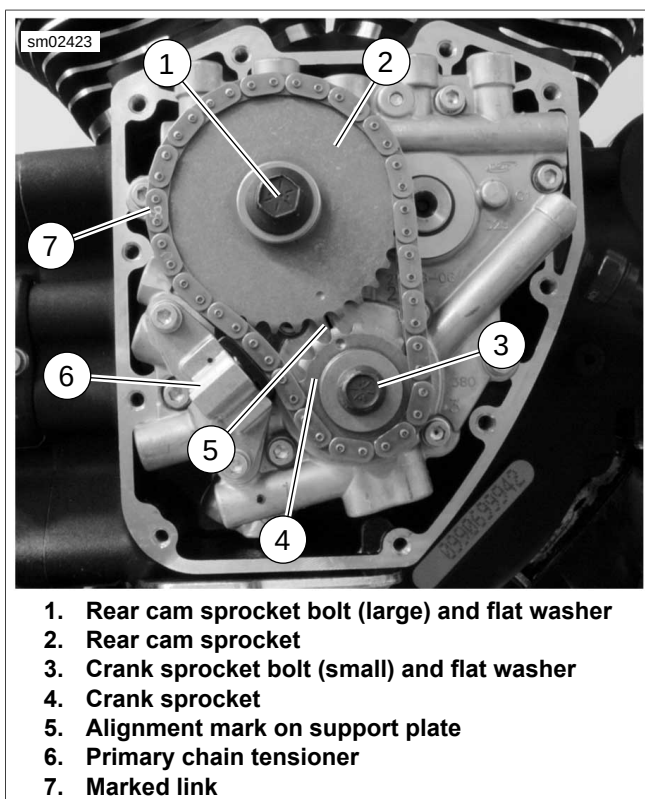

Figure 3-115. Primary Chain and Sprockets
- See Figure 3-115. Apply a light film of SCREAMIN' EAGLE ASSEMBLY LUBE to splines on rear cam. Install the primary cam chain and sprocket assembly.
- Place both cam sprockets (2, 4) in the primary chain with the timing marks aligned. Verify that the colored mark placed on the chain link (7) is on the same side as the timing marks and is visible during installation.
- Rotate the crankshaft clockwise until the timing marks on the sprockets are aligned and also aligned with alignment mark (5) on cam support plate.